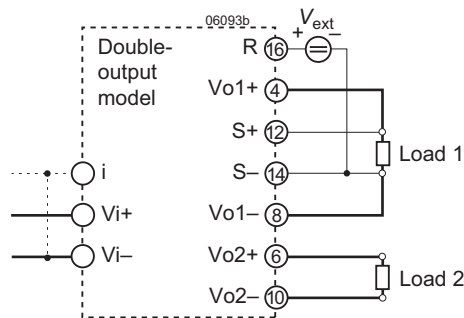

Fig. 20 Output adjust using an external control voltage V_{ext} .
a) Adjustment by means of an external control voltage V_{ext} between R (pin 16) and S- (pin 14); see fig. 20.